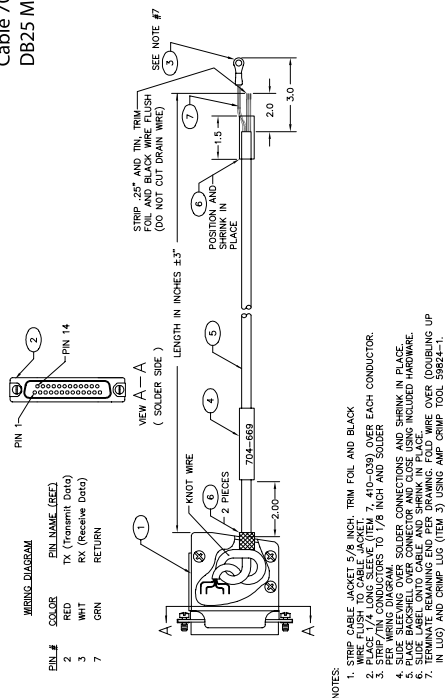

Figure 64: RS232 Digital output cables
- Figure 64, "RS232 Digital Output Cables" on page 49